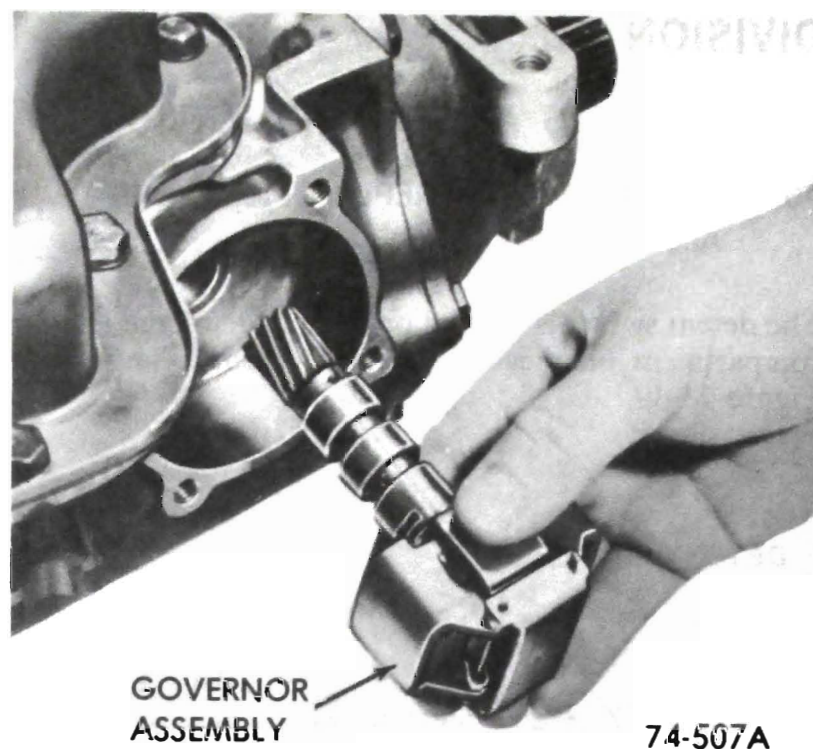

Figure 76-44
2. Withdraw governor assembly from case. See Figure 76-44.
1. Install governor assembly into case. See Figure 76-44.